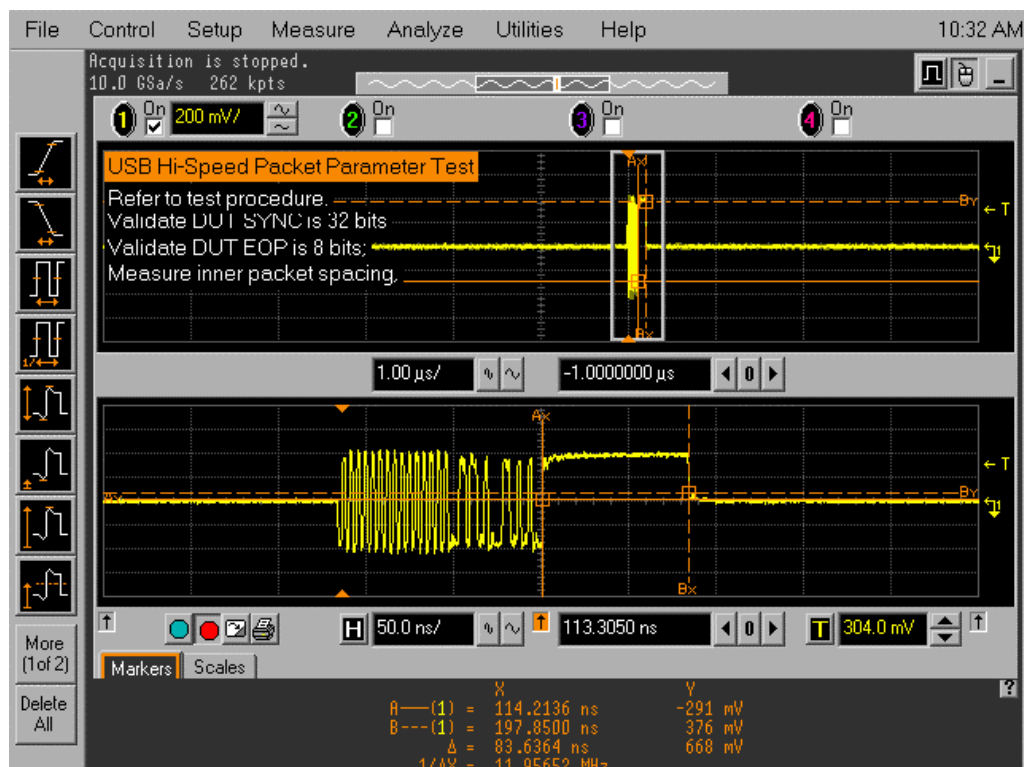

Figure 17. EOP Width – SOF Packet
15. Measure the EOP Width as shown in Figure 17...